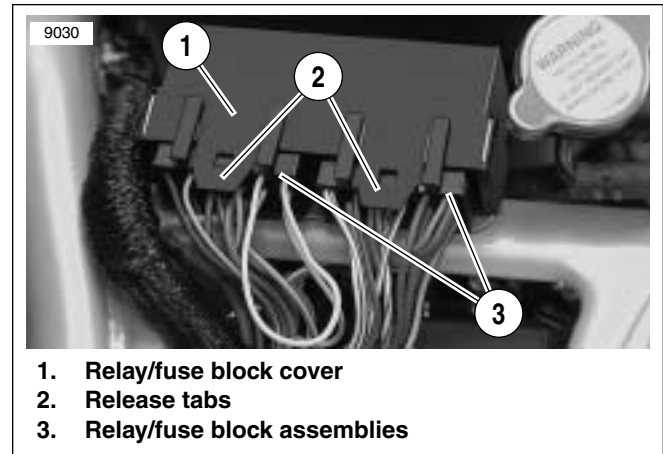

Figure 8-1. Relay/Fuse Block Assembly (typical)
4. See Figure 8-1. Gently lift up each relay/fuse block cover release tab (2) and slide each relay/fuse block assembly out of the cover.
1. See Figure 8-1. Slide each relay/fuse block assembly back into relay/fuse block cover. Push relay/fuse block assembly into the cover until cover release tab locks into place.